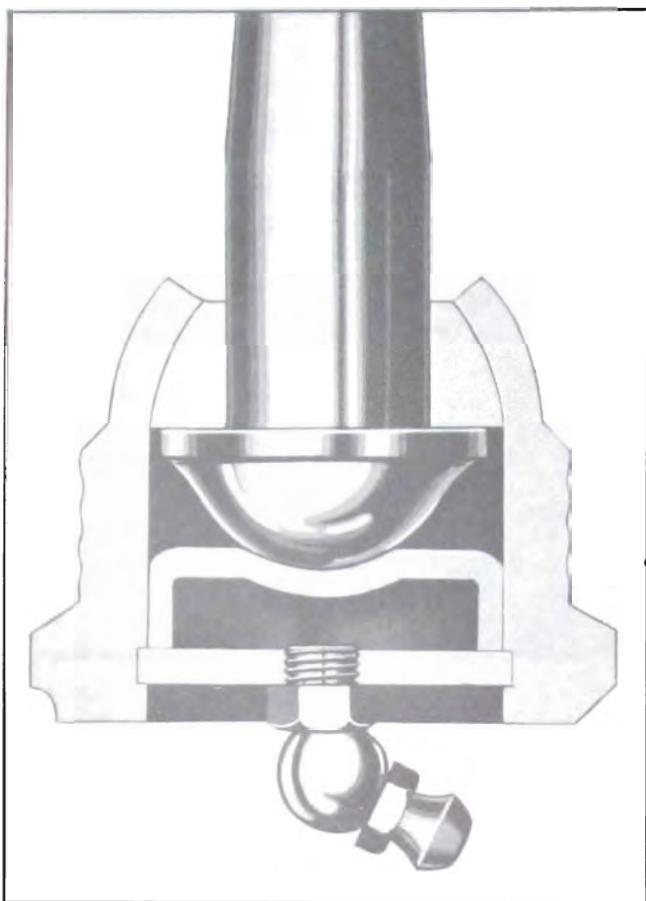

Figure 7-11—Lower Ball Joint
**NOTE:** Upper and lower ball joints are similar in appearance but are not interchangeable. Upper ball joints are spring loaded to prevent looseness while the force of the chassis spring keeps the lower ball loaded. See Figure 7-11.